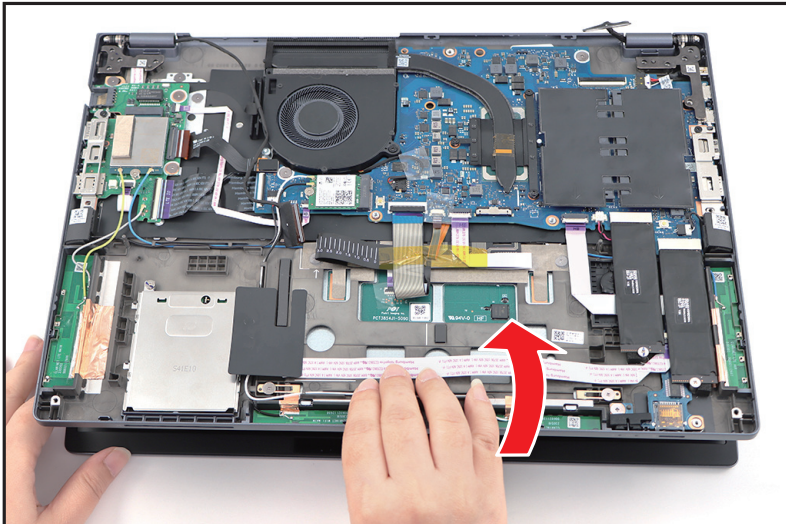

Figure 1-16. LCD Module Removal
4. Lift the top assembly until it is fully open (Figure 1-16).